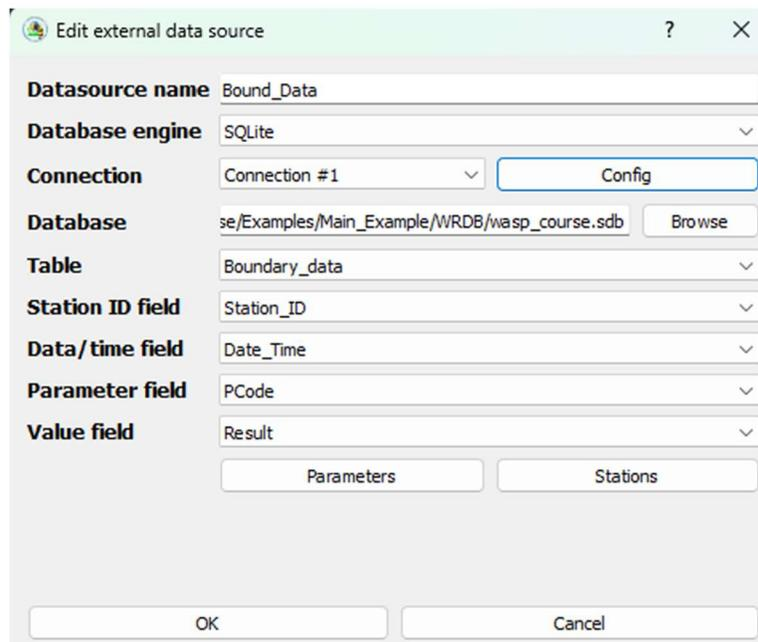

Figure 31 WASP External Database Connection
Once you click Add a dialog screen will appear (Figure 31). This dialog box allows you to create a connection to external data. It is important to organize your data by types for WASP, in our case we will have two types of data:
- **Data Source:** this is a drop-down selection of previously defined connections (see Figure 31)